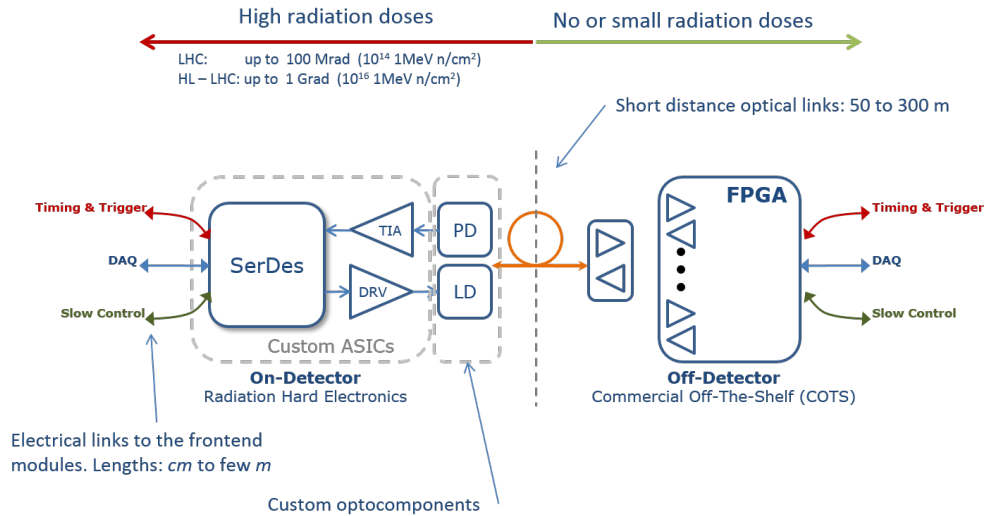

Fig. 1.1: Typical HEP Link Architecture
Logically the link provides three “distinct” data paths for Timing and Trigger Control (TTC), Data Acquisition (DAQ) and Slow Control (SC) information. In practice, the three logical paths do not need to be physically separated and are merged on a single optical link as indicated in Fig. 1.1. The aim of such architecture is to allow a single bidirectional link to be used simultaneously for data readout, trigger data, timing, experiment control and monitoring. Such an Architecture establishes a point-to-point bidirectional optical link (two fibres) with constant latency that can function with very high reliability in the harsh radiation environment typical of high energy physics experiments at LHC.
The link is implemented by a combination of custom developed and Commercial-Off-The-Shelf (COTS) components (Fig. 1.1). In the counting room the receiver and transmitters are implemented using COTS components and FPGAs. Embedded in the experiments, the receivers and transmitters are implemented by the lpGBT chipset and the VL+ optoelectronic components. This architecture clearly distinguishes between the counting room and front-end electronics because of the very different radiation environments. The on-detector front-end electronics works in a hostile radi-